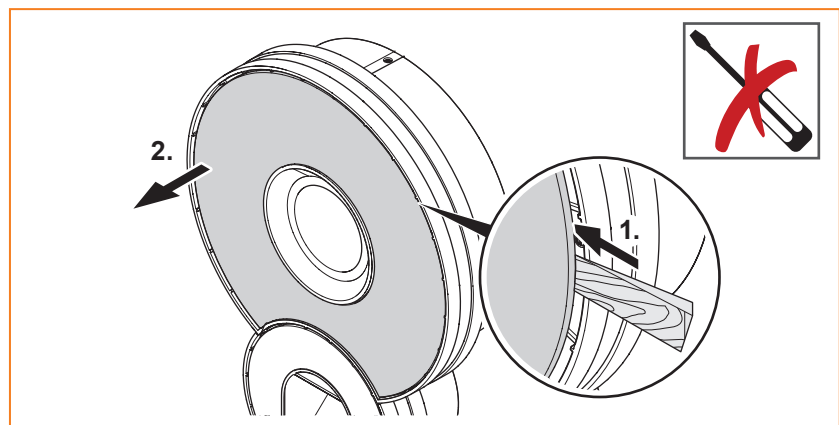

Fig. 2 Detaching the cover from the housing
- ▶ Use a flat dismantling wedge to detach the mounted covers from the housing (see Fig. 2).